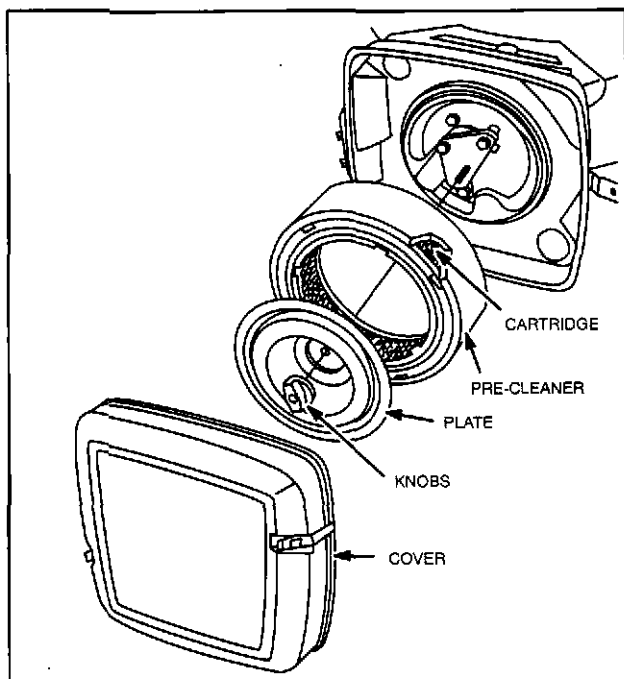
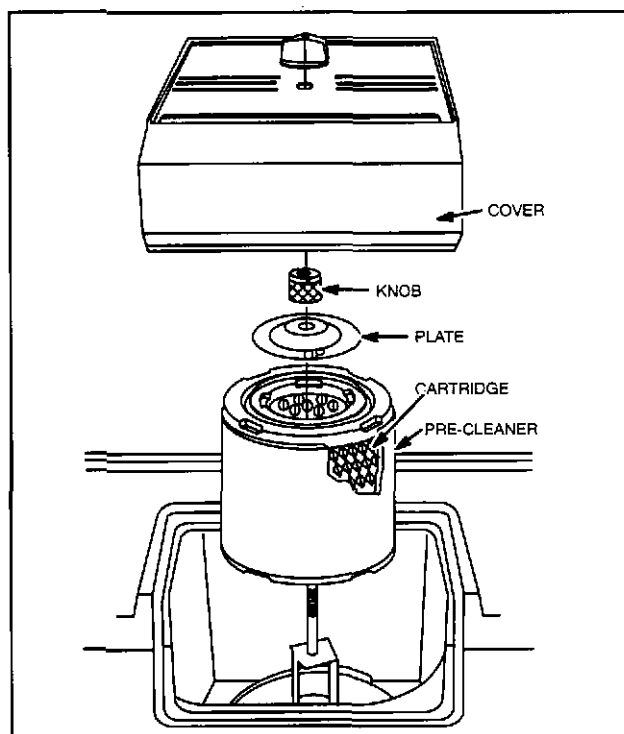
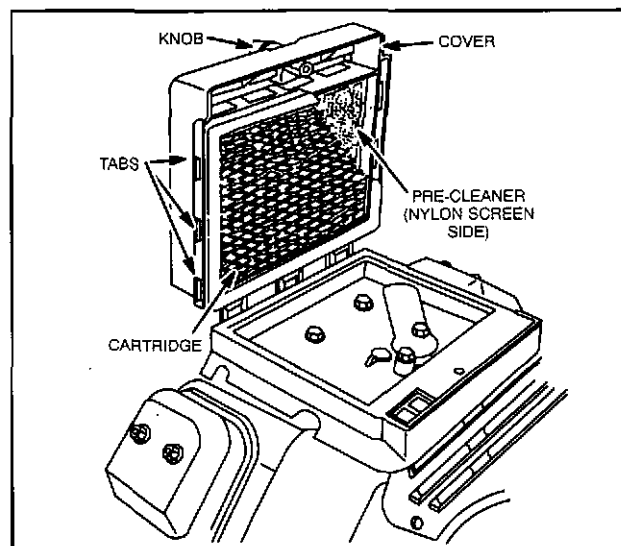

Fig. 1 - Round Dual Element Air Cleaner
Fig. 2 - Round Dual Element Air Cleaner
Fig. 3 - Square Dual Element Air Cleaner
Remove and service foam pre-cleaner every 25 hours or every season, whichever occurs first, Fig. 1, Fig. 2 or Fig. 3. Service cartridge every 100 hours or every season, whichever occurs first.
1. Remove cover assembly, Fig. 1, or Fig. 2.
1. Remove knob and cover plate, Fig. 1 or Fig. 2.
2. Reinstall air cleaner cover, Fig. 1 or Fig. 2.
1. Remove cover assembly, Fig. 3.
- f. Install paper cartridge in cover with tabs on cartridge in slots of cover, Fig. 3.
- c. Reinstall paper cartridge in cover with tabs on cartridge in slots on cover, Fig. 3.